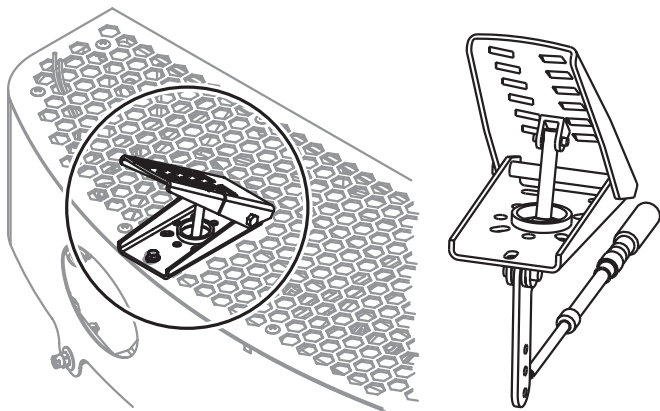

Figure 22. Blade Speed Control Foot Pedal
8. The foot pedal (Figure 22) controls blade speed. Slow blade speed is obtained by slightly depressing the foot pedal. Maximum blade speed is obtained by fully depressing the pedal.